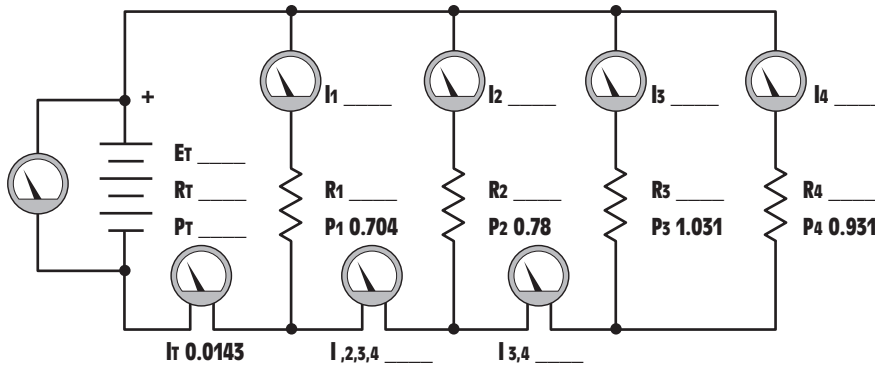

Figure 6-29 Practice Problem 4.
4. Find the missing values in the circuit shown in *Figure 6-29*.